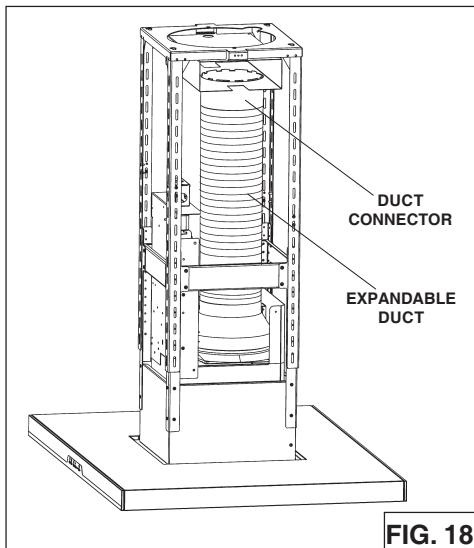

FIG. 18
5. Attach 6-inch expandable ducting to the plenum and tape joint with aluminum duct tape (Fig.18).